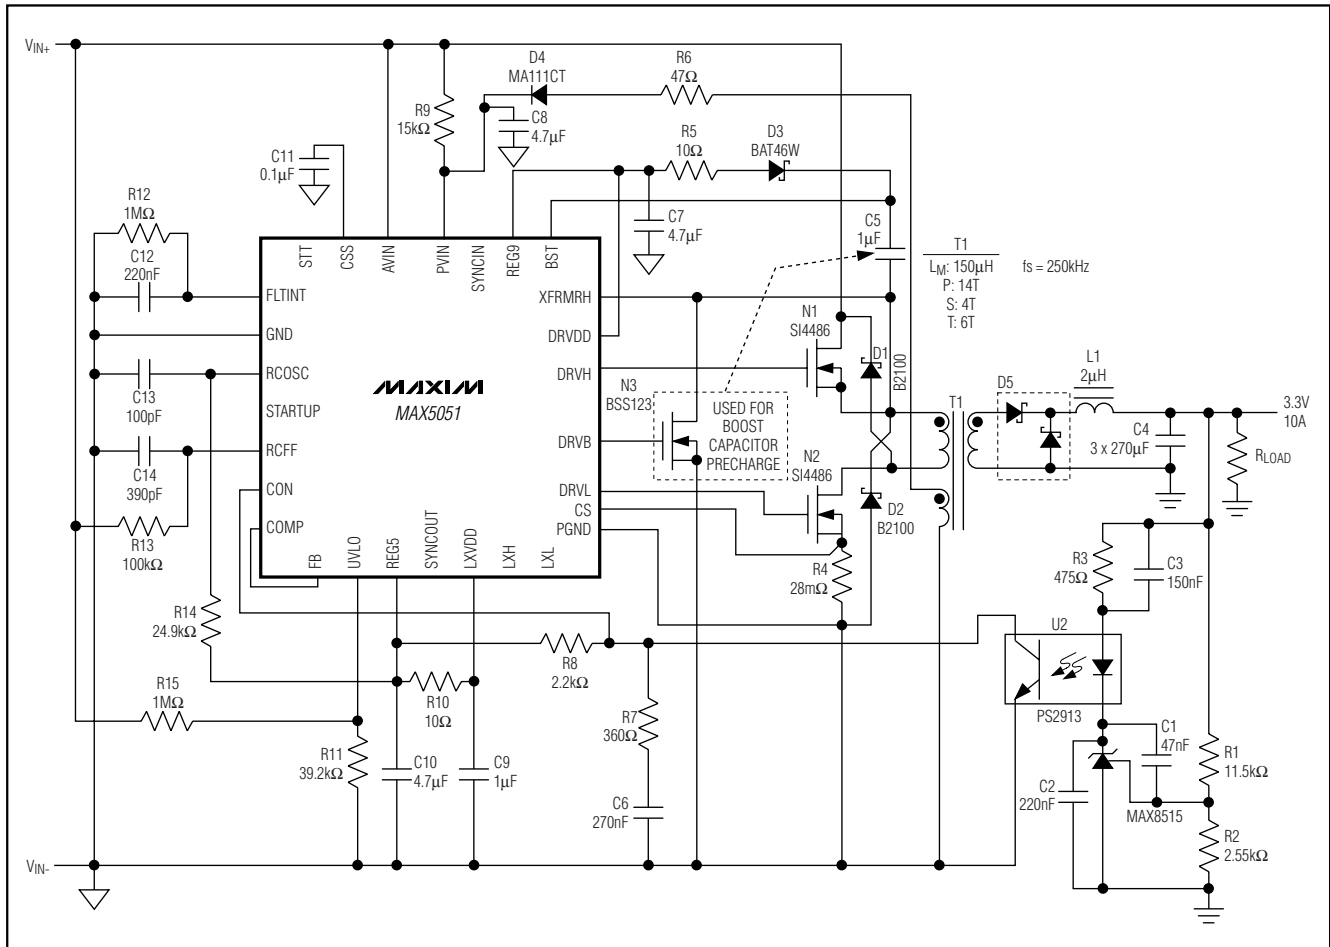

Figure 2. Typical Application Circuit
The two-switch power topology has the added benefit of recovering practically all magnetizing as well as the leakage energy stored in the parasitics of the isolation transformer. The lower clamped voltages on the primary power FETs allow for the use of low $R_{DS(ON)}$ devices. Figure 2 shows the schematic diagram of a 48V input 3.3V/10A output power supply built around the MAX5051.
If the charge stored on the boost capacitor is not adequately replenished then the gate-driver lockout for the high-side MOSFET is triggered, stopping the high side from switching. The low side continues switching, eventually recharging the capacitor, at which point the high side starts switching again. To prevent this behavior, use the boost capacitor's cycle-by-cycle charging circuit to prevent unwanted shutdowns of the high side (Figure 2). Connect the gate of a small high-voltage FET (with the same voltage rating or higher as the main FETs) to the DRV B output of the MAX5051. Connect the drain of this FET to XFRMRH, and connect the source to the primary ground. DRV B will briefly (300ns) turn this FET ON every cycle after the main PWM clock terminates. This allows the boost capacitor to be replenished under all conditions, even when switching stops completely. A suitable FET for this is BSS123 or equivalent (100V, 170mA rated). The boost-capacitor charge
The error amplifier in the MAX5051 has an uncommitted inverting input (FB) and output (COMP). Use this amplifier when secondary isolation is not required. COMP can then be directly connected to CON (the input of the PWM comparator). The noninverting input of the error amplifier is connected to the soft-start generator and is also available externally at CSS. A capacitor connected to CSS is slewed linearly during initial startup with the 70μA internal current source (see Figure 2). This provides a linearly increasing reference to the noninverting input of the error amplifier forcing the output voltage also to slew proportionally. This method of soft-start is superior to other methods because the loop is always
After coming out of standby and before initiating the soft-start, the MAX5051 turns on the low-side FET to charge up the boost capacitor. A voltage detector has been incorporated in the high-side driver that prevents the high-side switch from turning on with insufficient voltage. It is also used to indicate when the boost capacitor has been charged. Once the capacitor is charged, soft-start commences. If the duty cycle is low, the magnetizing energy in the transformer may be insufficient to keep the bootstrap capacitor charged. DRVb (see Figure 2 dotted lines) has been provided to drive a small external FET connected between XFRMRH and PGND, and is pulsed every cycle to keep the capacitor charged.